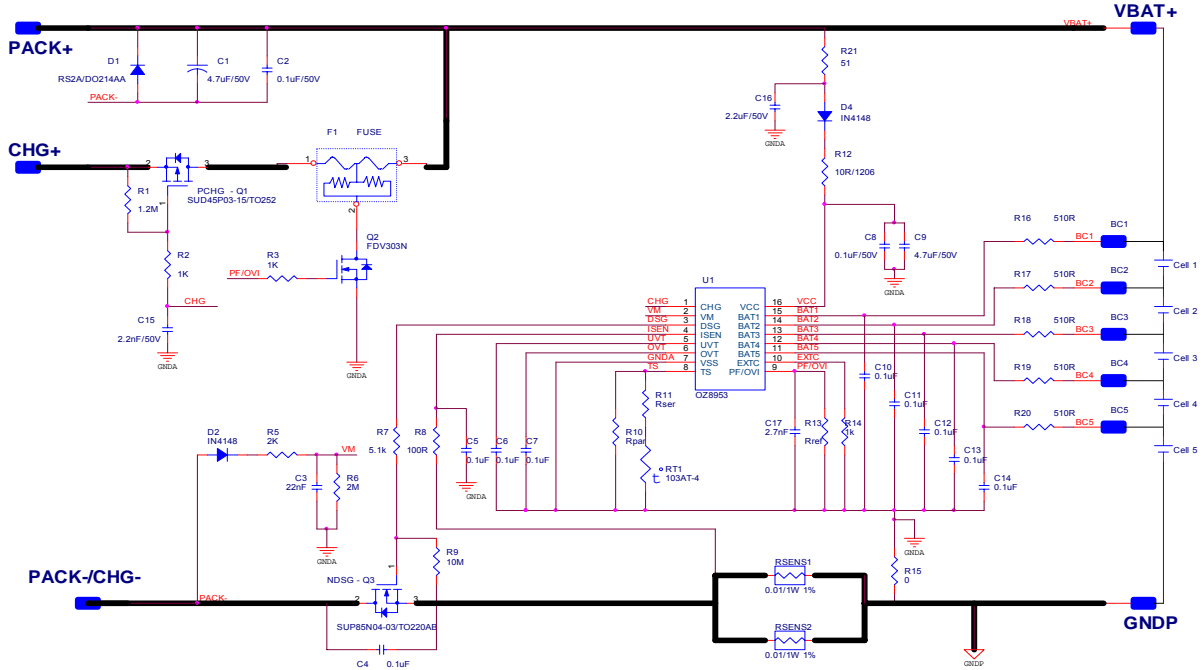

Figure 17 OZ8953 reference circuit (1)
6. Permanent-Failure (PF) Blow Fuse Protection
Permanent-Failure Blow Fuse protection shares Pin9 with Over-Voltage indication function. It is an alternative function and configured by O2Micro before product shipment. OZ8953 XX-1,-2 & -5,-6 support Permanent Failure (PF) Blow Fuse protection function, when any battery cell voltage becomes higher than V_{PF} and continues for T_{PF} or longer, OZ8953 will work in PF state, PF/OVI pin will output high level, which can be used to drive one buffer to blow the external fuse. Refer to Figure 17 for an example. The output voltage level is:
When battery pack voltage reaches OZ8953 power-on reset voltage $V_{PWR-ON-RST}$ plus one diode forward voltage (refer to D4 device in Figure 17), OZ8953 will enter normal working mode.